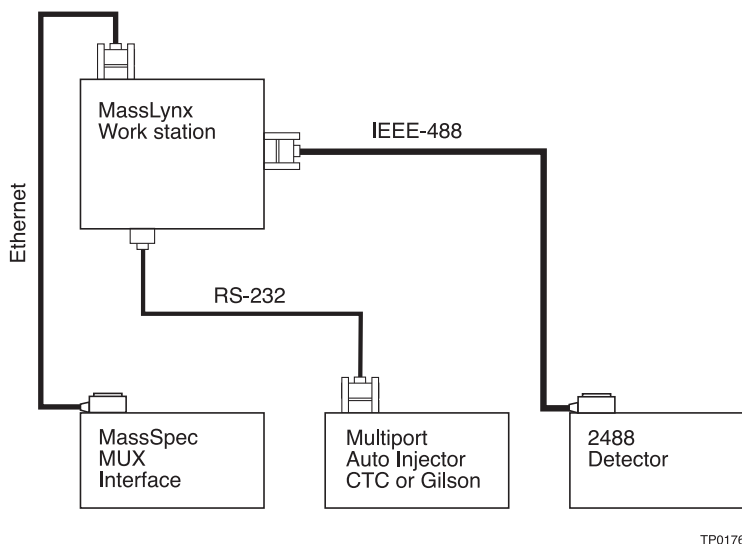

Figure 2-11 Connections to the 2488 Detector in a MassLynx System
3. Ensure all IEEE-488 cable screws are fastened finger tight (Figure 2-11).